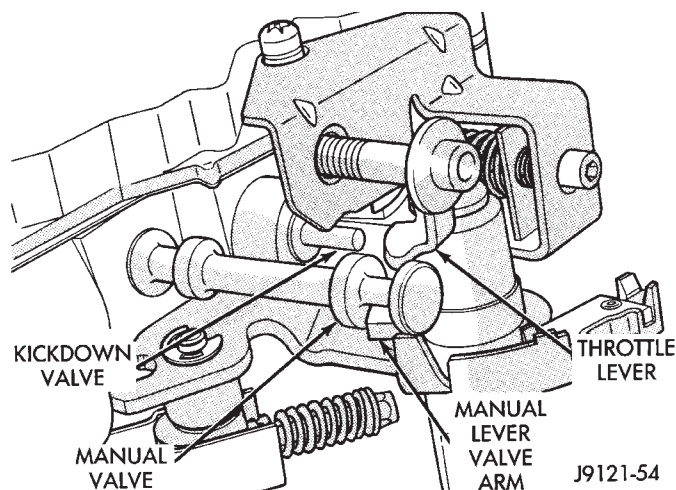
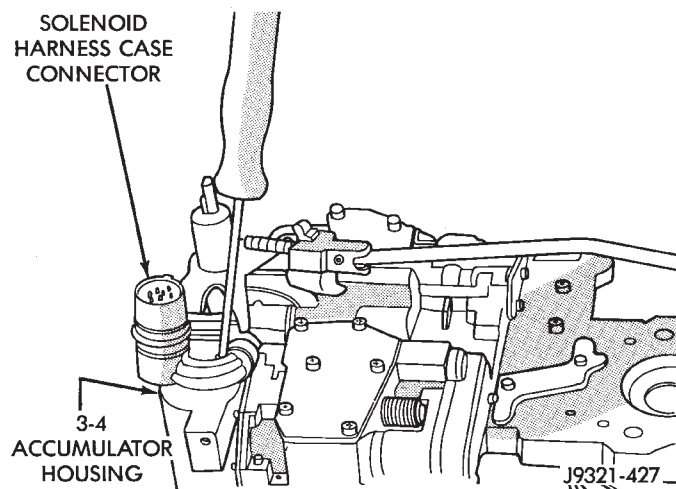

Fig. 90 Manual And Throttle Lever Alignment
Fig. 91 Solenoid Harness Case Connector Shoulder Bolt
(5) Align manual lever with detent ball and manual valve. Hold throttle lever upward. Then press down on manual lever until fully seated. Remove detent ball retainer tool after lever is seated.
(6) Then install manual lever seal, washer and E-clip.
(7) Verify that throttle lever is aligned with end of kickdown valve stem and that manual lever arm is engaged in manual valve (Fig. 90).
(8) Position line pressure adjusting screw in adjusting screw bracket.
(9) Install spring on end of line pressure regulator valve.
(10) Install switch valve spring on tang at end of adjusting screw bracket.
(11) Install manual valve.
(12) Install throttle valve and spring.
(13) Install kickdown valve and detent.
(14) Install pressure regulator valve.
(15) Install switch valve.
(16) Position adjusting screw bracket on valve body. Align valve springs and press bracket into place. Install short, upper bracket screws first and long bottom screw last. Verify that valve springs and bracket are properly aligned. Then tighten all three bracket screws to 4 N·m (35 in. lbs.) torque.
(17) Lubricate solenoid case connector O-rings and shaft of manual lever with light coat of petroleum jelly.
(18) Obtain new fluid filter for valve body but do not install filter at this time.
(19) If line pressure and/or throttle pressure adjustment screw settings were not disturbed, continue with overhaul or reassembly. However, if adjustment screw settings **were** moved or changed, readjust as described in Valve Body Control Pressure Adjustment procedure.
(20) Attach solenoid case connector to 3-4 accumulator with shoulder-type screw. Connector has small locating tang that fits in dimple at top of accumulator housing (Fig. 91). Seat tang in dimple before tightening connector screw.
(21) Install solenoid assembly and gasket. Tighten solenoid attaching screws to 8 N·m (72 in. lbs.) torque.